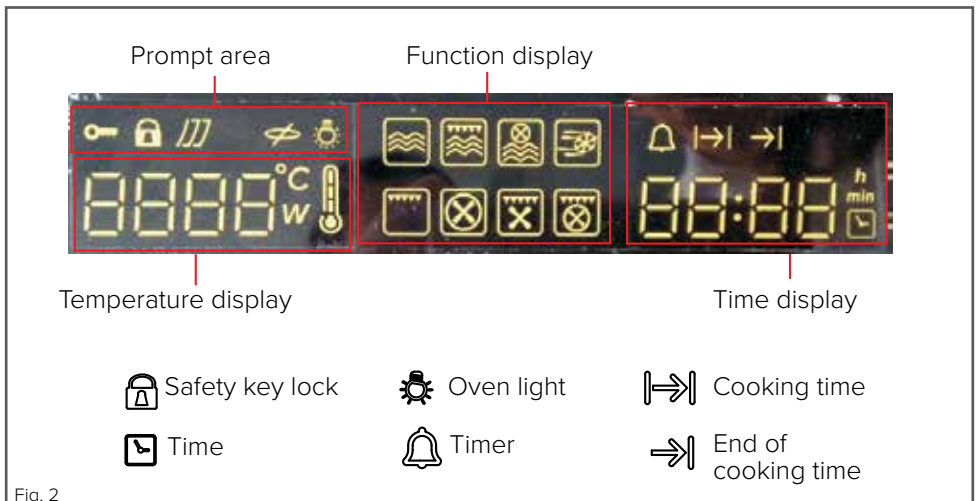

Fig. 2
Simply press and hold the safety key lock sensor (H) for approximately 5 seconds. The prompt area (fig. 2) will display a padlock symbol. All sensors will now be temporarily disabled. Any touch of the sensors, other than the safety key lock sensor (H) will cause the padlock symbol to flash as a reminder that the control panel is locked.
The interior lighting will come on automatically when the oven is in use but can be turned on and off as you so wish. The light will also turn on after opening the oven door. The light can be turned on when the oven is in standby without a function in operation. Simply press the oven light sensor (D) to operate the light as necessary. The light bulb symbol in the prompt area (fig. 2) will illuminate to indicate when the interior light is on.